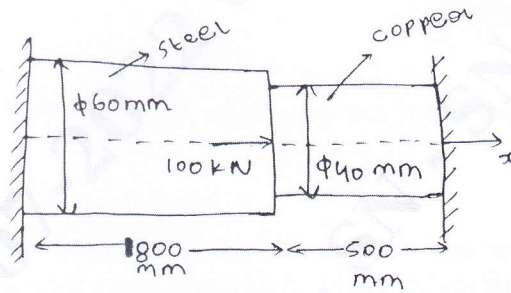

Fig.Q5(a)
- 5 a. Using Penalty method of handling boundary condition determine the nodal displacement, stress in each element and support reaction in the bar shown in Fig.Q5(a) due to applied force  $P = 100\text{kN}$  take  $E_{\text{steel}} = 200\text{GPa}$   $E_{\text{cu}} = 100\text{GPa}$ .